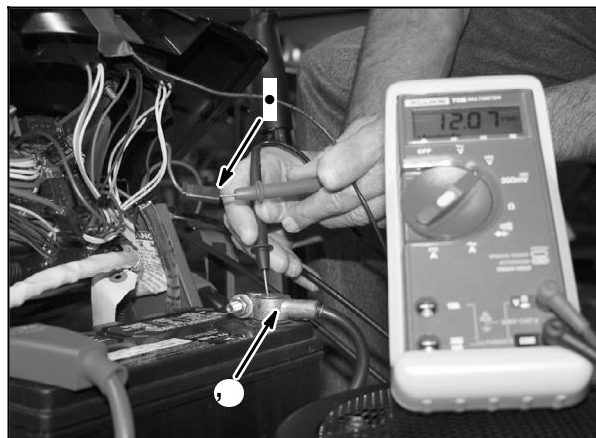

Fig. 36
Insert RED meter test lead into the brake interlock switch wire connector (1), Fig. 36.